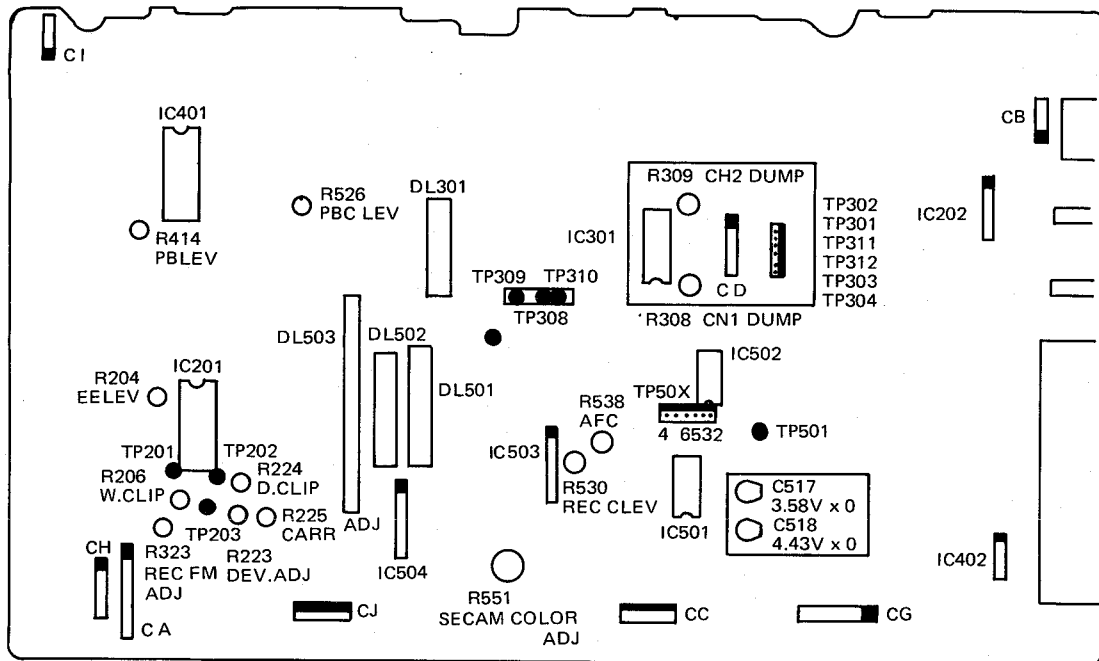

Figure 39.
1. Major volume parts layout drawing (Fig. 39)